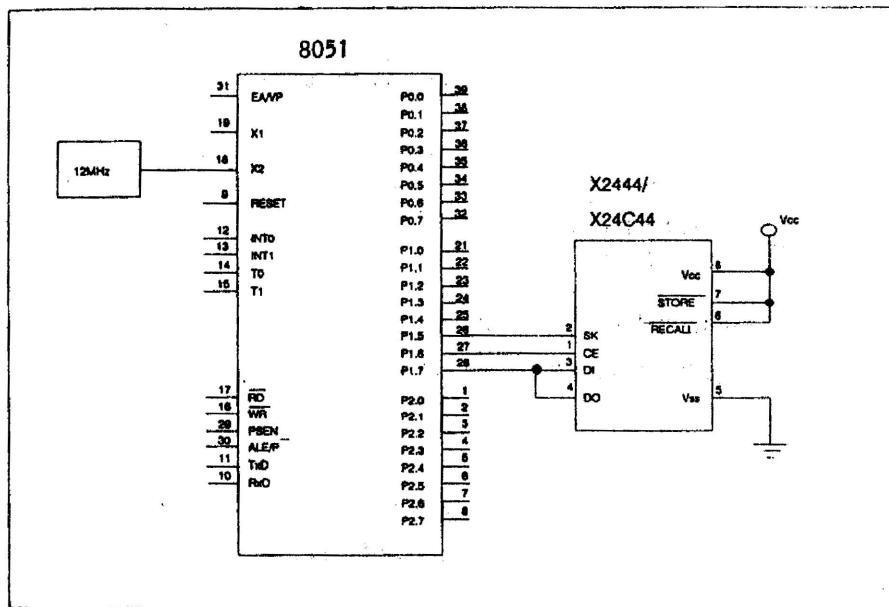

Figure 1
- A memory device (X24C44) is interfaced to an 8051 microcontroller as shown in Figure 1. The data sheet for the device is given in Appendix 2.*